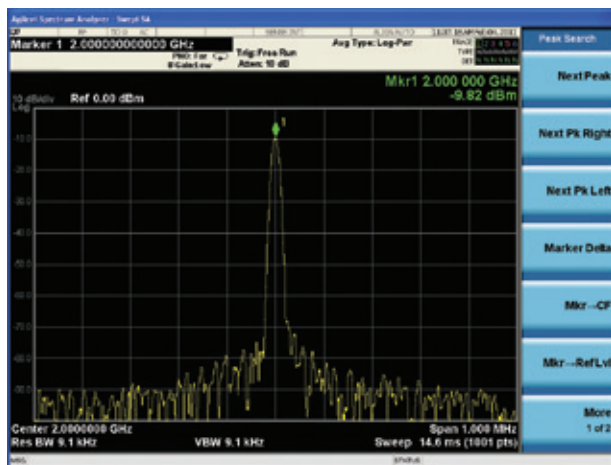

Figure 2
- Step the signal analyzer and signal generator up in 1 GHz increments. At each frequency, press the marker peak button and verify the power meter and spectrum analyzer read approximately the same (Figure 2).